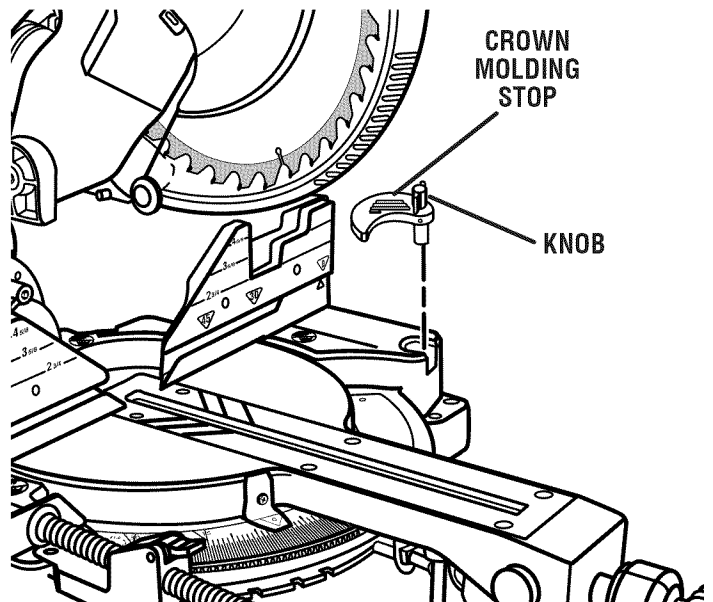

Fig. 43
See Figures 43 - 44.
- Place the stop in the hole on either the left or the right side of the saw's base. See figure 43.